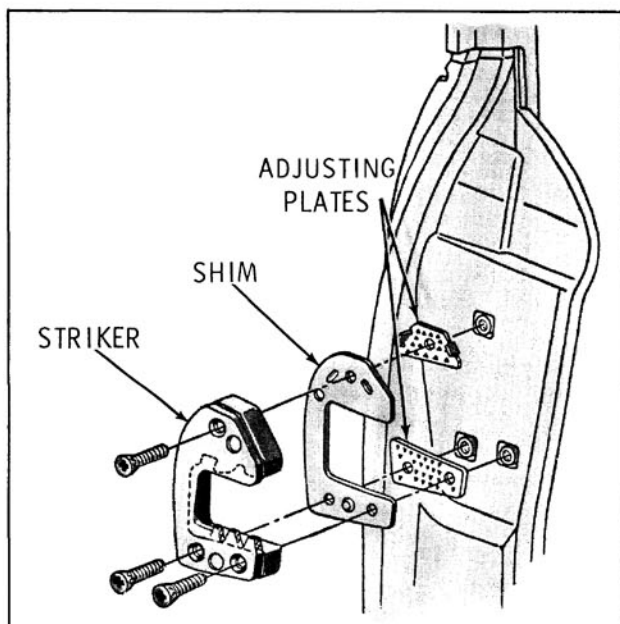

Fig. 16-62 Rear Door Lock Striker
2. Remove three door lock striker attaching screws and remove striker and adjusting plates from pillar. (Fig. 16-62)